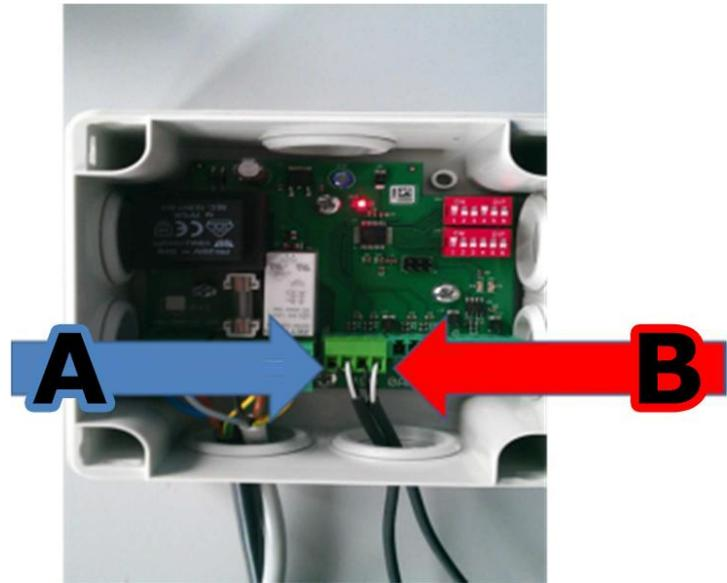

Figure 3
The left temperature probe is used for the cold pool water thermometer (A). This temperature probe is put via a T-piece and a 1/2 inch teflon insert in the filter outlet. When first installing the Beniferrosol, the probes will not be attached and should be attached by yourself. Please connect the probes as in figure 3.